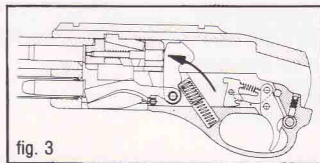

fig. 3
**When the trigger is squeezed**, the sear releases the hammer. The hammer then disengages the firing pin block and strikes the firing pin. (fig. 3)